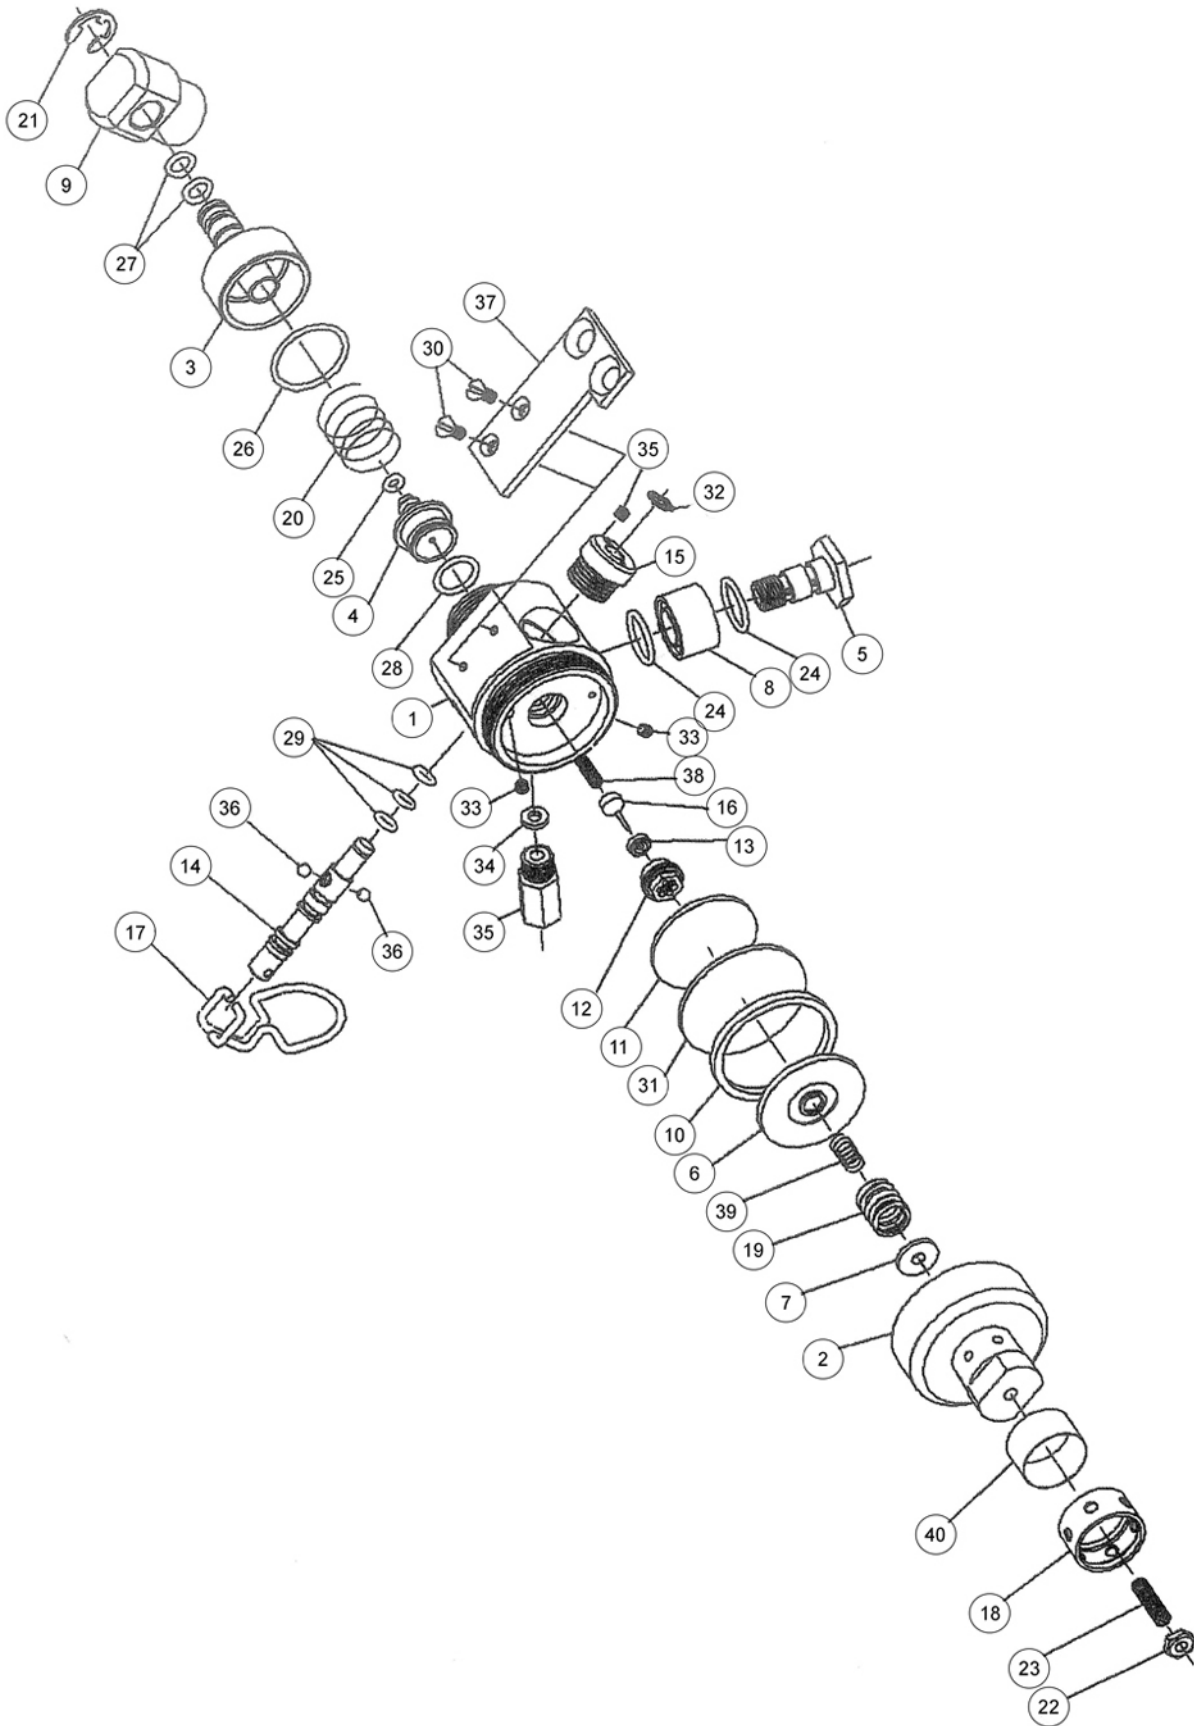

Fig 4.7 Annual Maintenance - Two Stage Regulator
The screws securing the mounting plate (Fig 4.7, Item 37) to the regulator body (Fig 4.7, Item 1) should not be removed as they are secured in place using Studlock (Loctite 601).
- a. Remove the banjo bolt (Fig 4.7, Item 5) on the two stage regulator and release the regulator completely.
- a. Unscrew the first stage end cap (Fig 4.7, Item 3) and remove the spring (Fig 4.7, Item 20).
- b. Wrap the first stage piston in thin card as a protective sleeve and use long nose pliers to carefully withdraw the first stage piston (Fig 4.7, Item 4). Check the seat for wear and replace as necessary.
- a. Unscrew the end cap (Fig 4.7, Item 2,) and remove the spring adjustment plate (Fig 4.7, Item 7) the spring support plate (Fig 4.7, Item 6) and the spring (Fig 4.7, Item 19).
- b. Remove the slip ring (Fig 4.7, Item 10) the diaphragm (Fig 4.7, Item 31) and the diaphragm support plate (Fig 4.7, Item 11).
- c. Unscrew and remove the valve seat retainer (Fig 4.7, Item 12).
- d. Remove the valve pin (Fig 4.7, Item 16).
- e. Remove the spring (Fig 4.7, Item 38).
- g. Check the valve seat (Fig 4.7, Item 13) for wear and replace as necessary.
- b. Remove the circlip, discard and replace. (Fig 4.7, Item 32).
- c. Remove the grub screw (Fig 4.7, Item 33).
- d. Unscrew the cap (Fig 4.7, Item 15).
- e. Allow the ball bearings (Fig 4.7, Item 36) to drop out.
- f. Remove the pull ring (Fig 4.7, Item 17).
- g. Withdraw the spool (Fig 4.7, Item 14) from the circlip end.